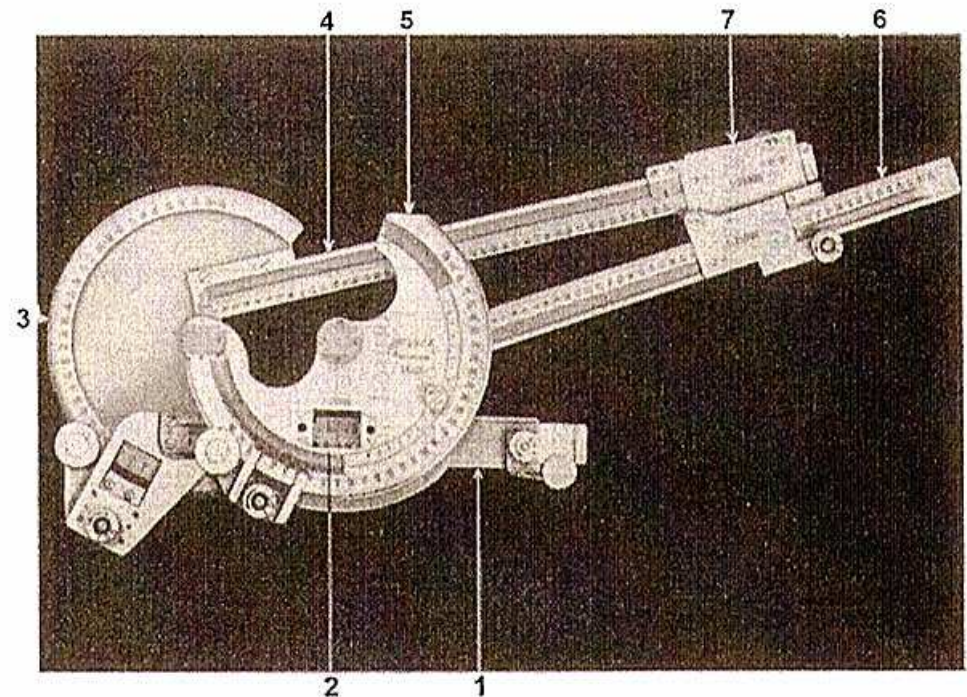

Fig. 32
Note: The base ruler has a scale of 0 to 1,500 m. Each fifth mark is longer and numbered with 0, 1, 2, etc. up to 15. Gap for the short marks = 20 m, the long marks = 100 m. The vernier scale has 10 marks and allows a reading of 2 m (see Fig. 32).
The left and right scale disks have one scale of 3200 to 6400 or 0 to 3200 mils with a 20" gap from mark to mark. The scales of both scale disks are numbered opposite. The pertaining vernier scale has 10 marks and allows a reading of 2" (see also Fig. 32).
On both the back side of the left scale disk and on the front side of the right scale disk, an adjustable circle ring piece (1) is located, which is provided with an additional scale of $\pm 800''$ for changing the target. By the applicable vernier scale (2), up to 2 mils can be read or set. (For setting the vernier scale, see Fig. 32).